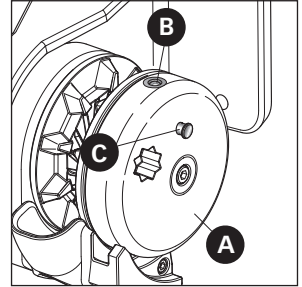

FIG. 1
- Turn the cover **A** until the pin's hole **B** faces upwards (as shown in fig. 1).
- Turn the cover **A** until the pin's hole **B** orientato verso l'alto (come fig. 1).